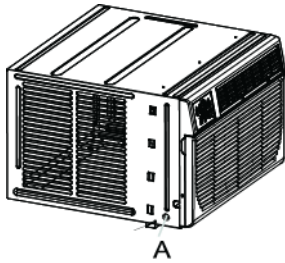

Figure 1
2. Remove 1 shipping screw from each side. (Figure 1)